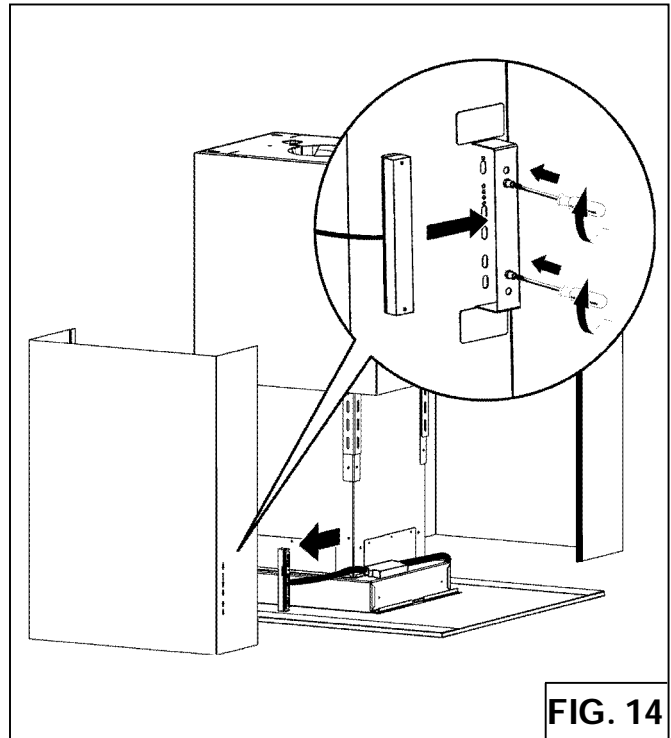

FIG. 14
5. Install the switch box assembly in to the front lower flue by tightening the 2 screws already inserted in the bracket welded to the flue (Fig.14).